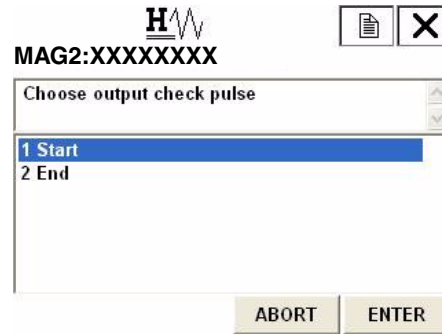

Figure 142.
- Figure 142 then appears. Choose Start to start fixed value of pulse output, and then press F4 (ENTER).